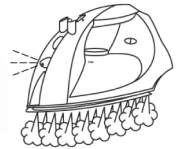

FIGURE 11
3. **Turn the Iron back to the horizontal position.** Press the Blast of Steam and Spray Buttons to release any water (see FIGURE 11). The warmth of the Iron should dry out any remaining water.